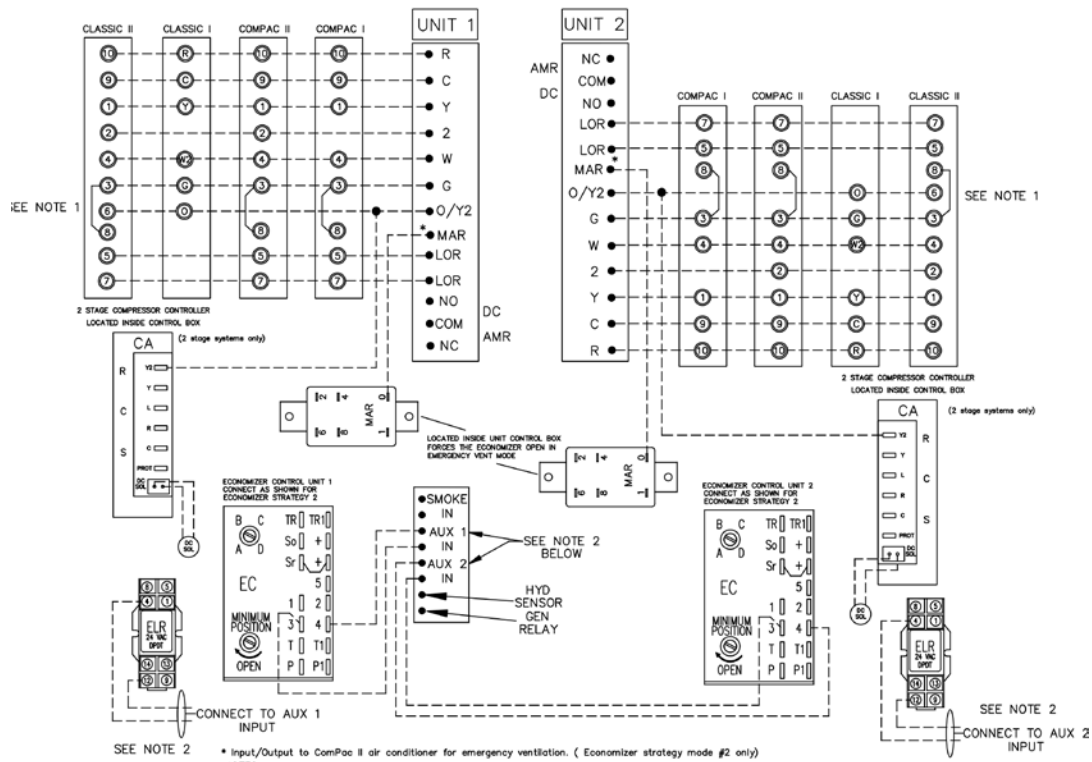

Figure 9c. CommStat Touch Wiring Diagram
3. On dual units, refer to the *CommStat Touch, CommStat 4 or CommStat 3 HVAC Controller Specification sheet*. Level and install the controller subbase. Wire the two A/C units to the Lead/Lag Controller, according to the wiring diagram on the specification sheet and as shown in Figure 9c or 9d (note: the diagram also appears on the back cover of the controller).
CommStat Touch Lead /Lag Controller (See Figure 9c)